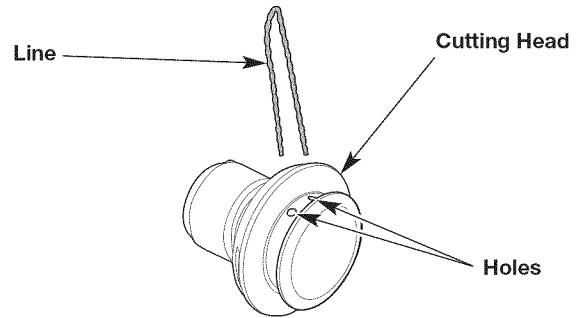
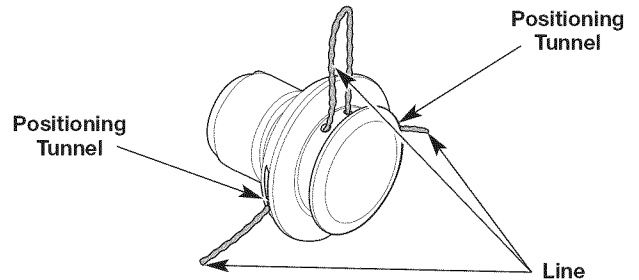

Fig. 15
Fig. 16
3. Insert the ends of the line through the large circular holes in the side of the cutting head (Fig. 15). Push the line through the holes until both ends protrude from the positioning tunnels (Fig. 16).